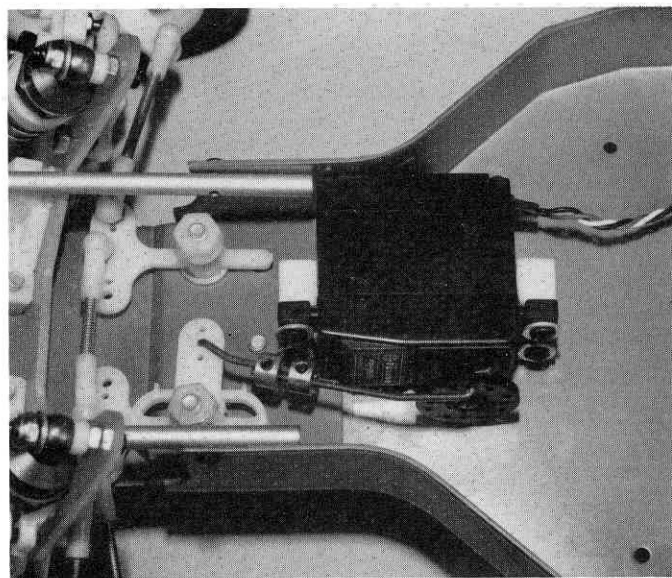

Fig. 123
□ **Fig. 123** Linkage is the same as for small servo but may require slightly more bend.